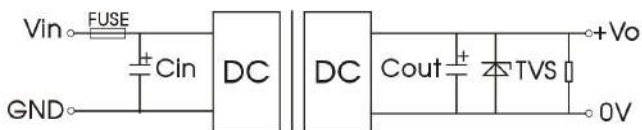

Fig. 6
- (1) During testing and application, please follow the recommended test circuit (Figure 6); Be sure to connect an electrolytic capacitor C_{in} ($\geq 220\mu F$) at the input to suppress the surge voltage that may be generated at the input terminal, and connect an electrolytic capacitor C_{out} ($\geq 220\mu F$) at the output, used for output filtering.
- (2) If the input terminal of the product is connected in parallel with a circuit with large transient energy (such as a parallel motor drive circuit), it may cause the input voltage of the product to be pulled down. Please pay attention to the fluctuation of the input voltage of the product, and it is recommended to increase the electrolytic capacitor at the input terminal appropriately. The capacitance value of C_{in} is to ensure the stability of the input terminal voltage and avoid the situation that the input voltage is lower than the undervoltage protection point and the product restarts repeatedly.
- (3) If the output terminal of the product is an inductive load (such as a relay, a motor), it is recommended to increase the value of the output capacitor C_{out} and add a TVS to filter out the voltage spikes.
- (4) Input and/or output ripple can be further reduced by appropriately increasing the input & output capacitor values C_{in} and C_{out} and/or by selecting capacitors with a low ESR (equivalent series resistance).